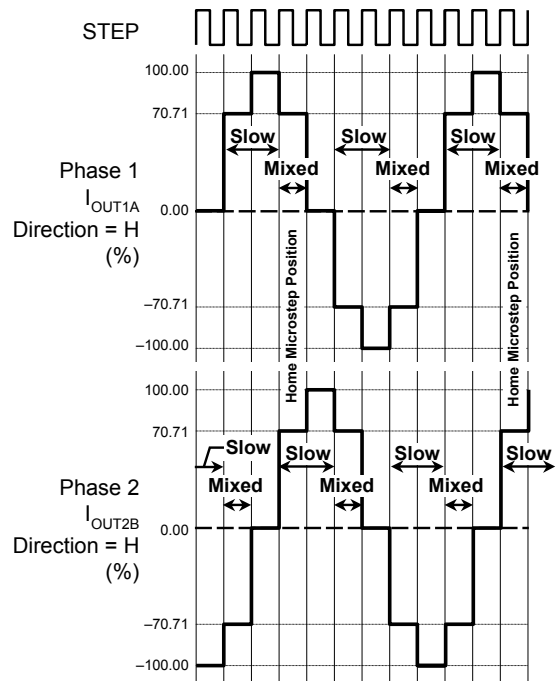

Figure 3. Decay Modes for Half-Step Increments
**Mixed Decay Operation.** The bridge can operate in Mixed Decay mode, depending on the step sequence, as shown in figures 3 through 5. As the trip point is reached, the A3983 initially goes into a fast decay mode for 31.25% of the off-time,  $t_{\text{OFF}}$ . After that, it switches to Slow Decay mode for the remainder of  $t_{\text{OFF}}$ .